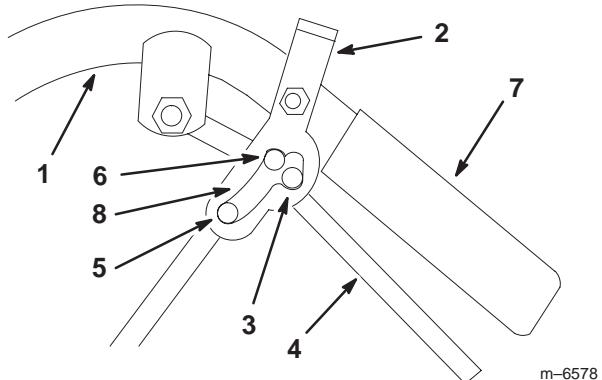

Figure 11
1. Squeeze the drive levers back to neutral position (Fig. 11).
2. Place thumbs on the upper part of the neutral locks and rotate them back (Fig. 11).
1. Squeeze the drive levers back to the grip slightly (Fig. 11).
2. Place thumbs on the upper part of the neutral locks and rotate them forward until in forward slot (Fig. 11).
1. Pull the brake handle rearward (Fig. 11).
1. Push the brake handle forward (Fig. 11).